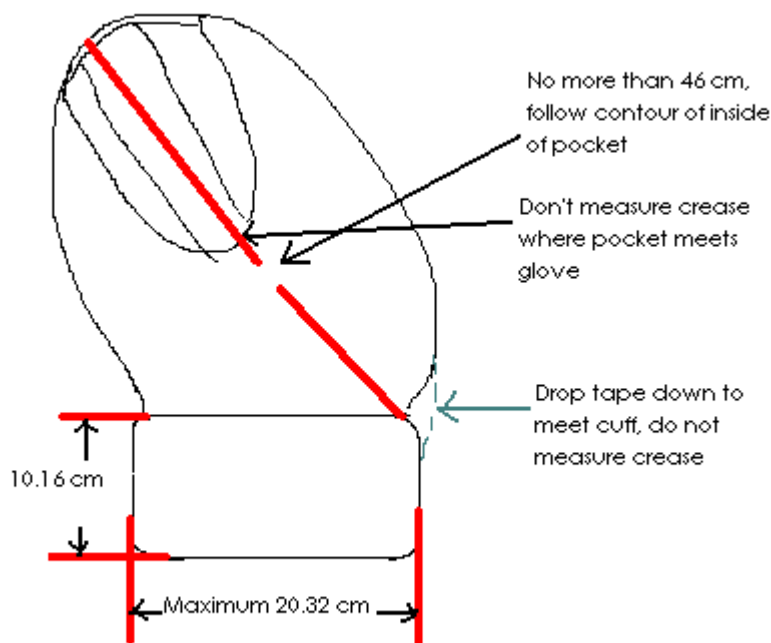

Figure 1
- To determine the “T” trap distance, the tape is to be placed from the heel of the glove along the pocket and following the contour of the glove to the top of the ‘T’ trap (See Figure 1). This distance must not exceed **46 cm**.